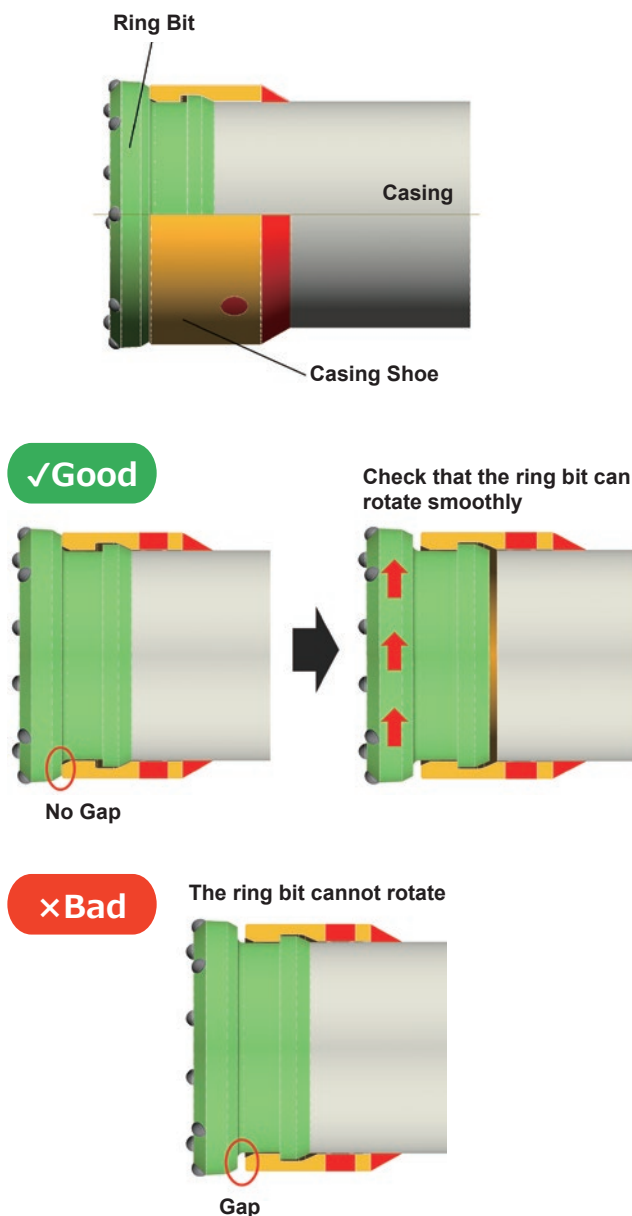

Figure 7 : Big Bore ring sets attachment and welding
2. Put the ring sets (the casing shoe and the ring bit) to the casing. Be sure the casing shoe is in the center of the casing pipe and there is no gap between the ring bit and casing shoe to make the ring bit rotate smoothly. **See Figure7.**
See Figure7.